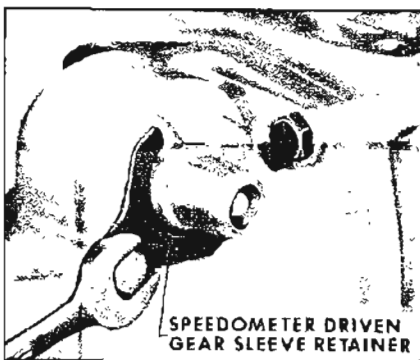

Figure 5-133
1. With transmission in horizontal position, remove speedometer driven gear sleeve retainer with a 1/2" wrench. See Figure 5-133.